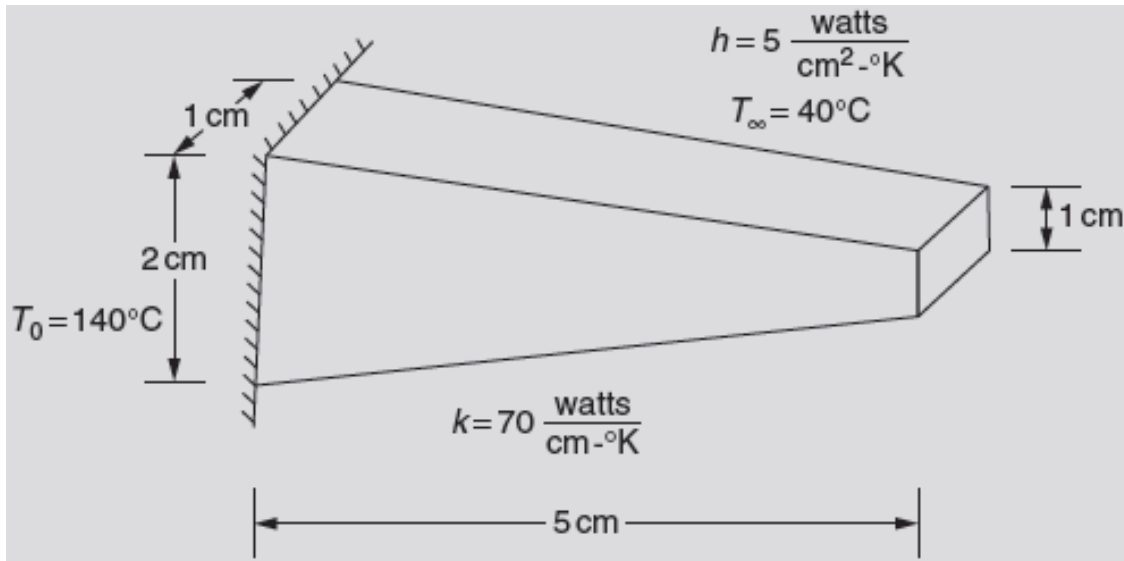

Figure P7.9
9. Find the temperature distribution in the tapered fin shown in **Figure P7.9**